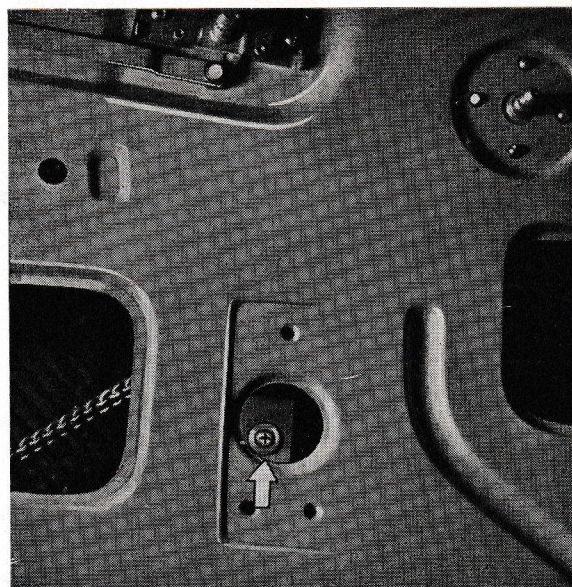

Fig. 22. Attaching screw for window guide rail.
3. Unscrew the screw which holds the guide rail to the window, see Fig. 22. This only applies to the extended guide rail on the front doors.